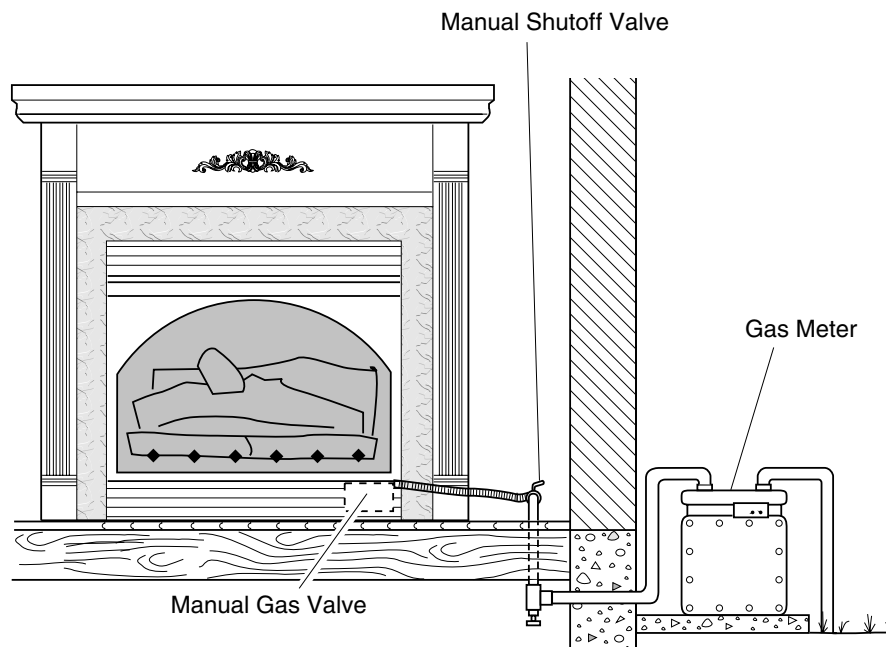

Figure 21 - Checking Gas Joints
3. Check all joints from gas meter to manual shutoff valve (see Figure 21). Apply mixture of liquid soap and water to gas joints. Bubbles forming show a leak.
4. Check all joints from manual shutoff valve to thermostat gas valve (see Figure 21). Apply mixture of liquid soap and water to gas joints. Bubbles forming show a leak.